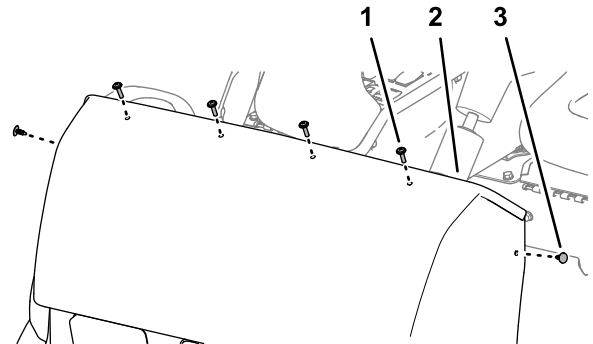

Figure 140
2. Assemble the hood to the dash support with 2 push-in fasteners (Figure 140).
3. Secure the hood to the dash support (Figure 140) with 4 Phillips pan-head screws (1/4 x 1 inch).